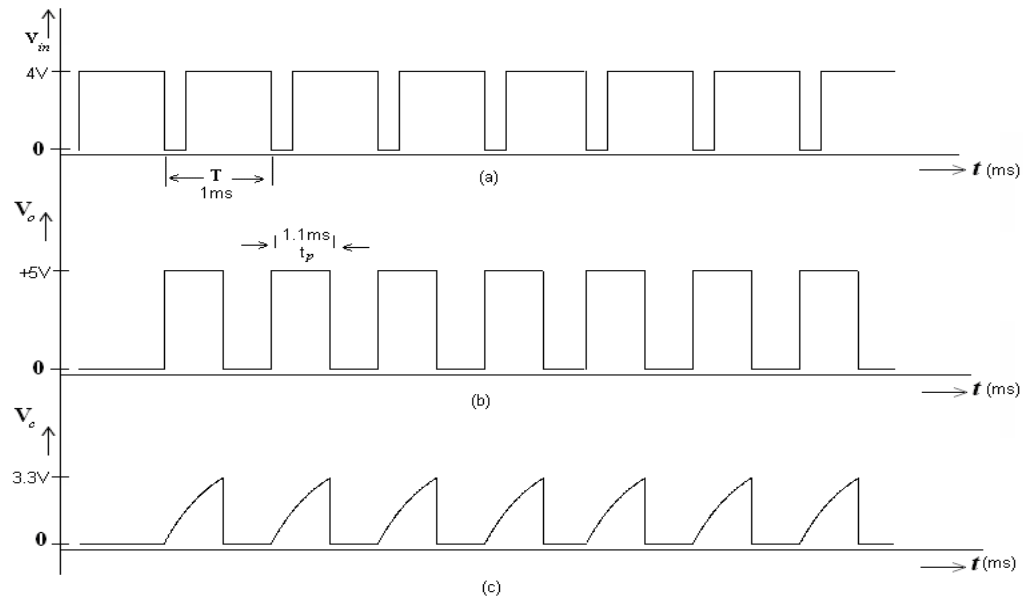

Fig 3 (a): Trigger signal
2. Apply Negative triggering pulses at pin 2 of frequency 1 KHz as shown in Fig 3(a).
3. Observe the output waveform and capacitor voltage as shown in Fig 3 (b) and (c) and measure the pulse duration
The input and output waveforms of 555 timer monostable multivibrator are observed as shown in Fig 3(a), (b), (c).